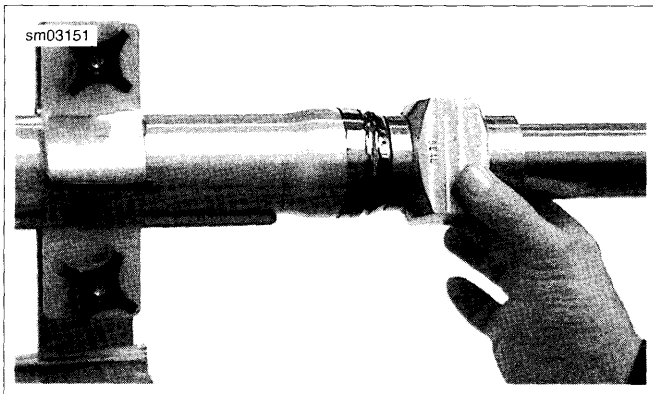

Figure 2-169. Install Chrome Dust Cover
11. See Figure 2-169. Remove FORK SEAL DRIVER, reverse tool to short side of tool to prepare to install chrome dust cover. Rotate slider cover to match any removal burrs in slider and tap chrome dust cover into place.